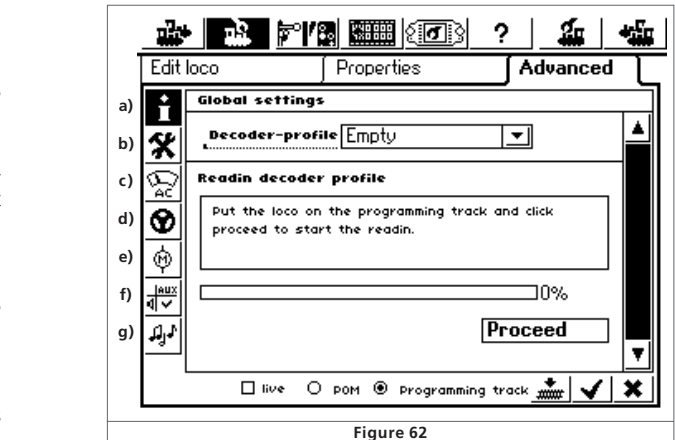

Figure 62
- Change to the third tab called "Advanced" and a window as shown in figure 62 opens.